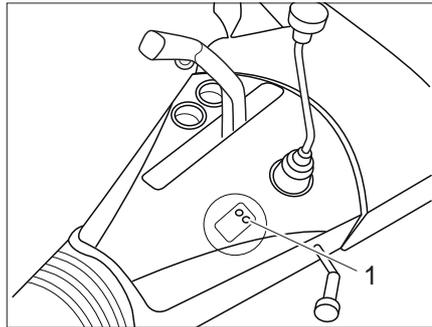

Fig. 2 LED of the ATC (AL-KO Trailer Control)
- A self-test is carried out, the LED (Fig. 2,1) lights up red.
- After the self-test the LED (Fig. 2,1) lights up green, the ATC is active.